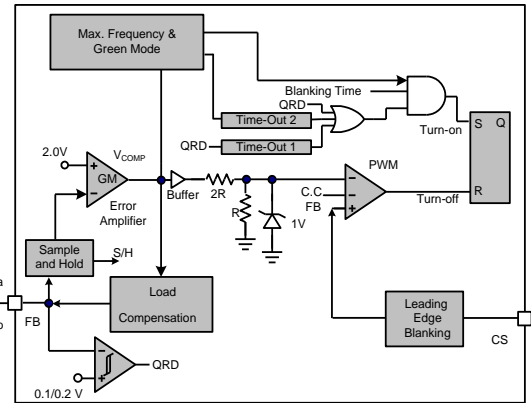

Fig. 20
The LD7515L employs quasi-resonant (QR) switching scheme to switch in valley-mode either in CV or CC operation. This will greatly reduce the switching loss and the ratio  $dv/dt$  in the entire operating range for the power supply. Fig. 20 shows the typical QR detection block. The QR detection block will detect auxiliary winding signal to drive BJT as FB pin voltage drops to 0.1V. The QR comparator will not activate if FB pin voltage remains above 0.2V.